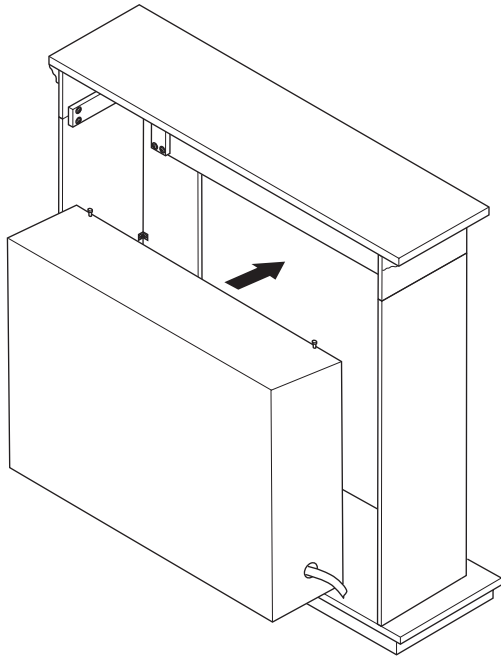

Figure 6 - Installing Fireplace
5. Position fireplace inside mantel (see Figure 6). Carefully position gas lines. Important: Use caution when positioning fireplace on base. Base may scratch easily. Make sure fireplace is in proper position within mantel opening before continuing with installation.